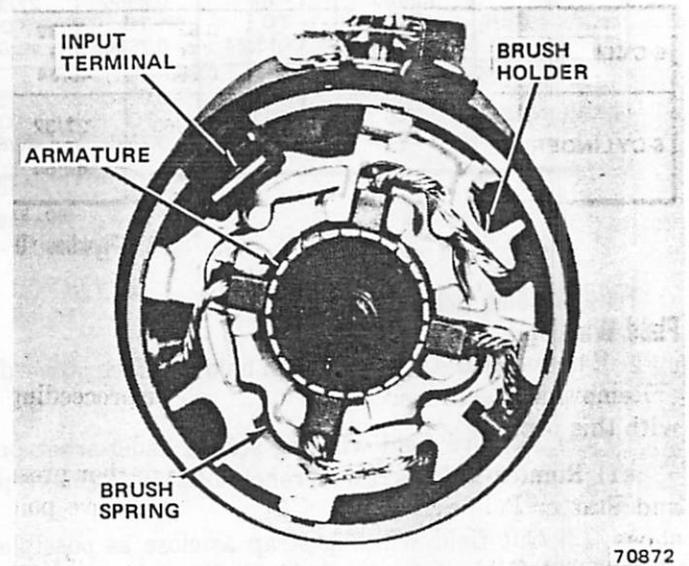

Fig. 1F-27 Brush Wire Routing
- (1) Insert armature into frame. Install drive yoke and pivot pin. Drive yoke must engage lugs on drive assembly.
- (2) Insert drive yoke return spring into recess in drive housing. Join housing to frame.
- (3) Install brush holder. Ensure depression in holder aligns with rubber boot on terminal.
- (4) Insert brushes into brush holder. Refer to figure 1F-27 for proper wire routing. Install brush springs.
- (5) Install end plate. Align hole in terminal with hole in terminal bracket.
- (6) Install through-bolts.